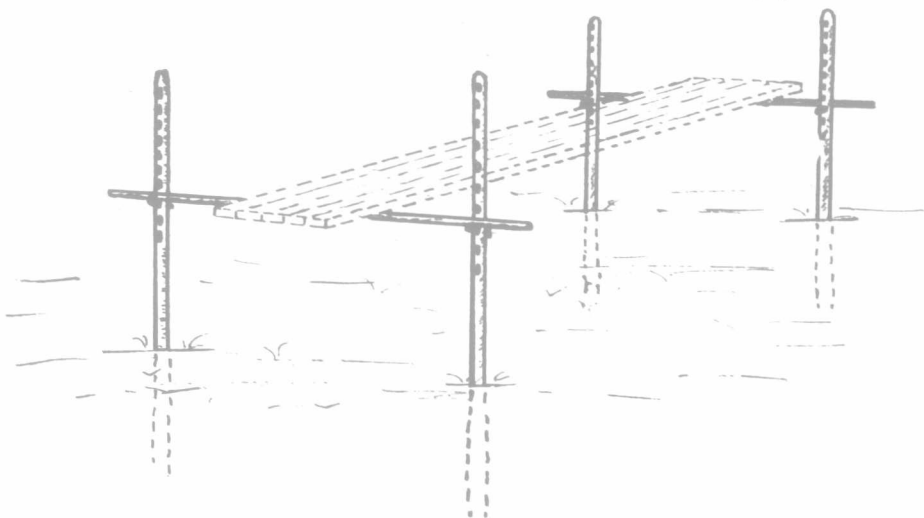

FIG. 1.—Contrivance for Loading and Unloading a Basket Rack by Lever and Pins
UNLOADING BY LEVER FIG. 1.
H. J. O., Sask., describes the contrivance shown in Fig. 1. He says: Cut four posts six inches in diameter and ten feet long. Bore a row of three-quarter-inch holes in each post, each hole slanting so that when a pin is inserted in it the pin will point slightly upward to prevent the cross bar from falling off. Then get two poles about four inches in diameter and fourteen feet long to use as cross bars. The post should be set three and a half feet in the ground. The distance between post for the rack should be about ten feet. The distance apart the other way will depend upon the length of the rack. About twelve feet will be the distance.